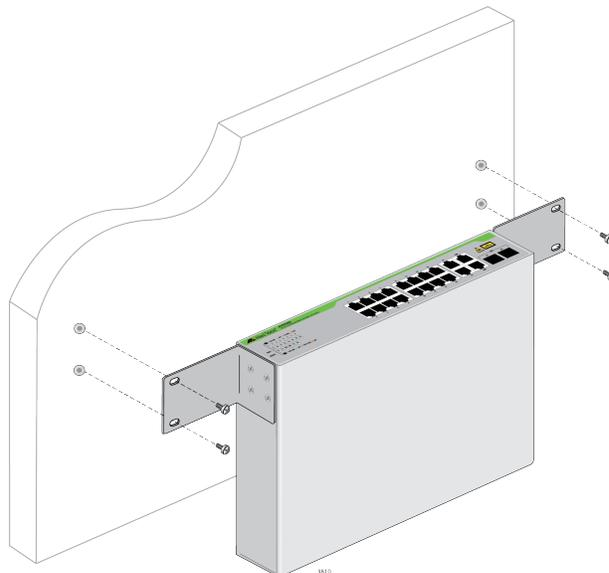

Figure 30. Driving the Screws through the Holes
9. Position the switch on the wall and drive screws through the holes to attach the brackets on the wall. See Figure 30.